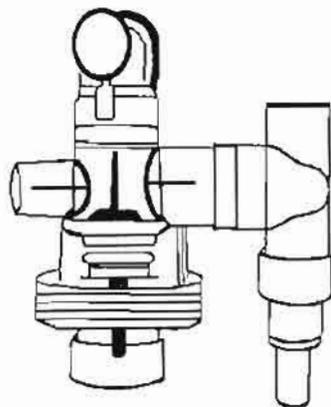

Figure 1-3. Patient valve.
- b. *Patient valve (fig 1-3)* This valve provides the interconnection between the control module and a patient.